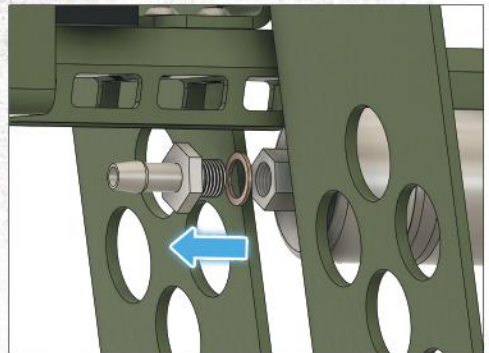

Figure 3
- 3 Use a 16 mm wrench to unscrew and remove the hose barb fitting from the fuel pump (Figure 3). Remove the copper washer from the fitting for re-use.